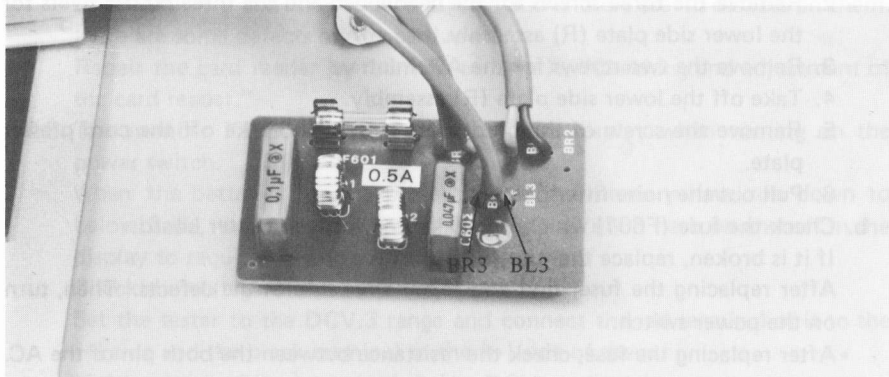

Fig. 22
- a. Disconnect the lead wire of the power transformer which is soldered at the position of BR3 and BL3 on the noise filter board. (Fig. 22).